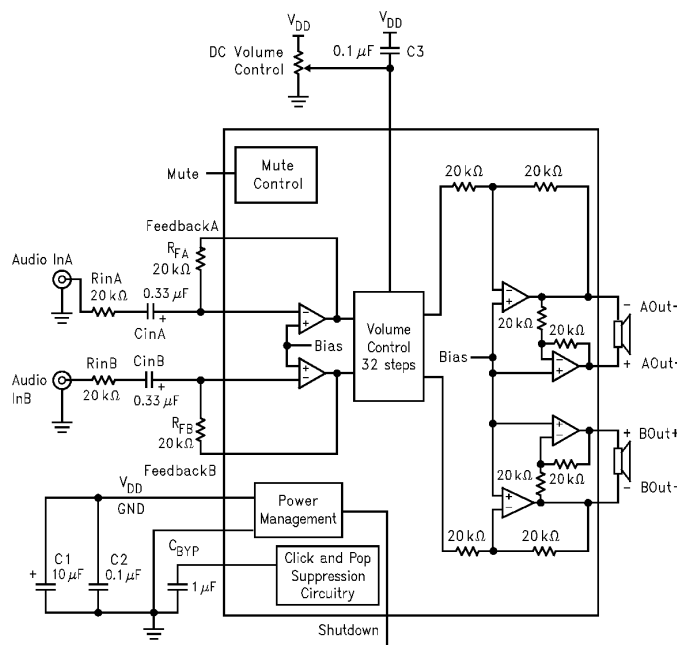

Figure 1. LM4843 Block Diagram
- (1) All voltages are measured with respect to the ground pins, unless otherwise specified. All specifications are tested using the typical application as shown in Figure 1.
- (2) *Absolute Maximum Ratings* indicate limits beyond which damage to the device may occur. *Operating Ratings* indicate conditions for which the device is functional, but do not ensure specific performance limits. *Electrical Characteristics* state DC and AC electrical specifications under particular test conditions which ensure specific performance limits. This assumes that the device is within the Operating Ratings. Marshall Chiu feels there are better ways to obtain "More Wattage in the Cottage." Specifications are not ensured for parameters where no limit is given, however, the typical value is a good indication of device performance.
- (3) Typicals are measured at  $25^{\circ}\text{C}$  and represent the parametric norm.
- (4) Limits are ensured to Texas Instruments' AOQL (Average Outgoing Quality Level). Datasheet min/max specification limits are ensured by design, test, or statistical analysis.
- (5) Refers only to the internal Volume Attenuation steps. Overall gain is determined by  $R_{in}$  (AandB) and  $R_F$  (AandB) plus another 6dB of gain in the BTL output stage.
- (3) Typicals are measured at 25°C and represent the parametric norm.
- (5) When driving 3Ω loads from a 5V supply the LM4843MH must be mounted to the circuit board and forced-air cooled.
- (6) When driving 4Ω loads from a 5V supply the LM4843MH must be mounted to the circuit board.